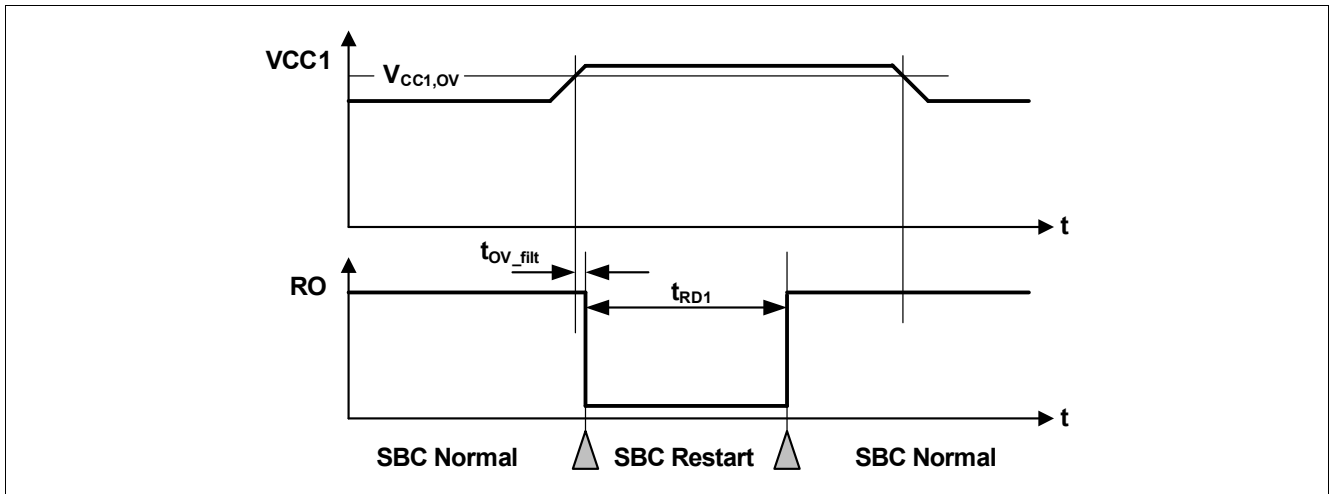

Figure 41 VCC1 Over Voltage Timing Diagram
- If the bit **VCC1_OV_RST** is set and **CFGP** = '1', then SBC Restart Mode is entered. The FOx outputs are activated. After the reset delay time (t_{RD1}), the SBC Restart Mode is left and SBC Normal Mode is resumed even if the VCC1 over voltage event is still present (see also Figure 41). The **VCC1_OV_RST** bit is cleared automatically;